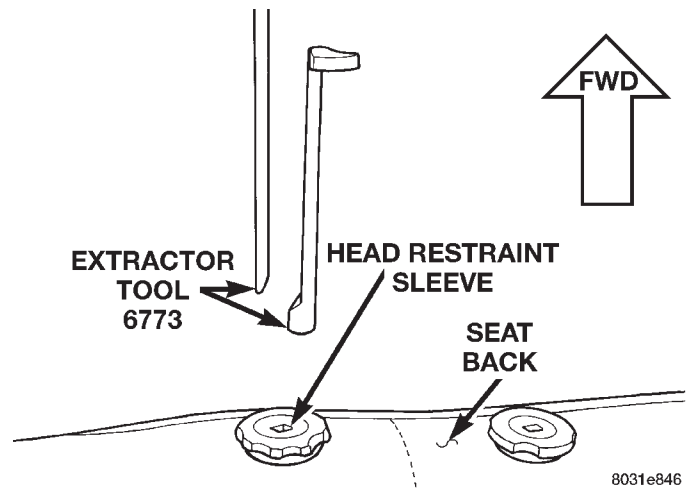
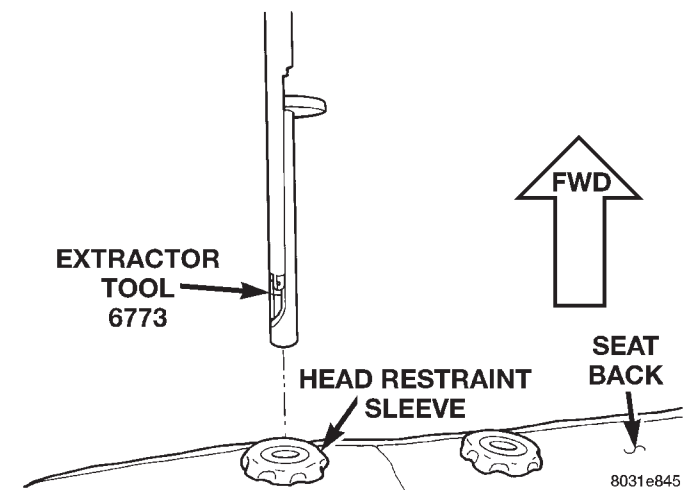

Fig. 1 Head Restraint Sleeve Extractor
Fig. 2 Head Restraint Sleeve Extractor Installation
- (1) Raise head restraint to the full up position.
- (2) Turn head restraint lock thumbwheel to release head restraint and pull head restraint upward to remove from seat back.
- (3) Insert head restraint sleeve extractor (special tool 6773) (Fig. 1) and (Fig. 2) into the seat back.